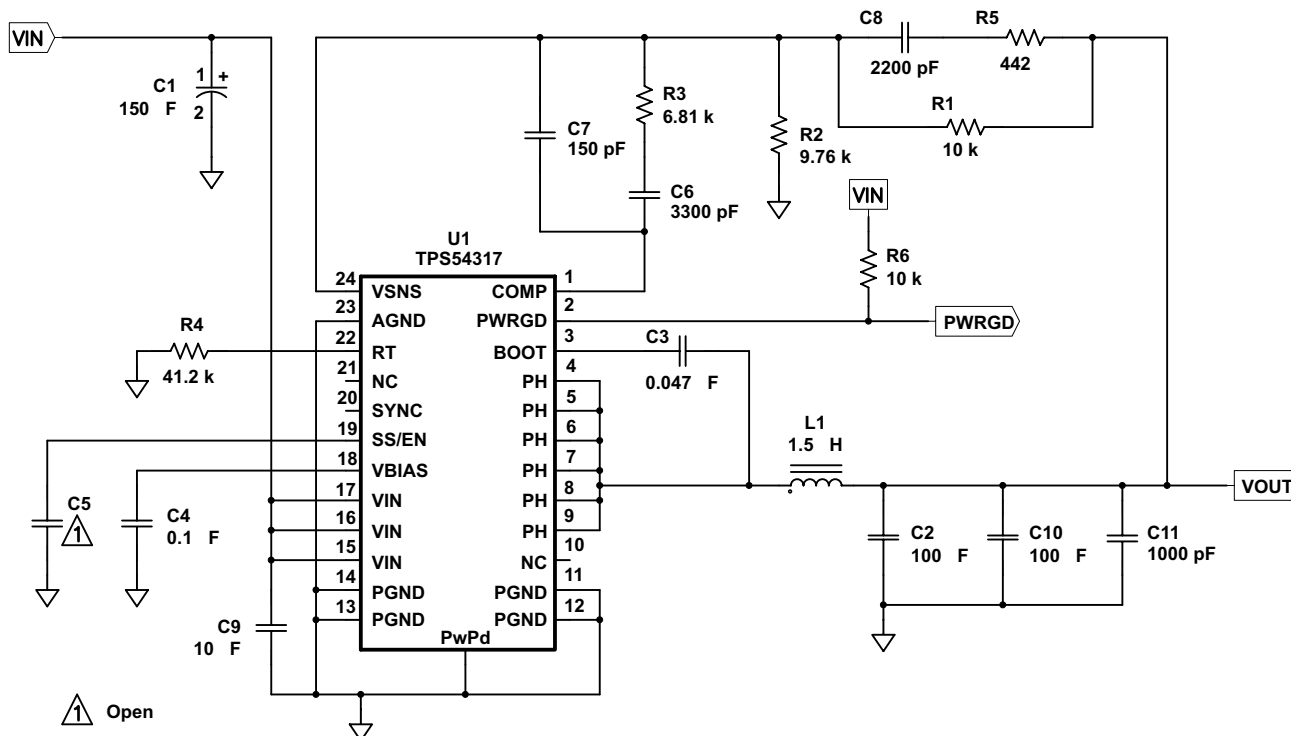

Figure 10. TPS54317 Schematic
(3) Specified by the circuit used in Figure 10.
Figure 10 shows the schematic diagram for a typical TPS54317 application. The TPS54317 (U1) provides up to 3 A of output current at a nominal output voltage of 1.8 V. For proper thermal performance, the power pad underneath the TPS54317 integrated circuit needs to be soldered well to the printed circuit board.